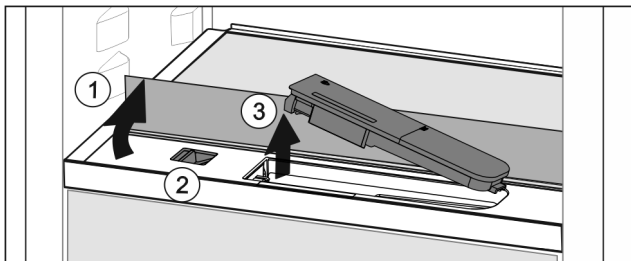

Fig. 49
- ▶ Lift the glass panel and fold towards the rear until it clicks into place Fig. 49 (1).
- ▶ Slide the slider Fig. 49 (2) to the left.
- ▶ Remove the water tank Fig. 49 (3).